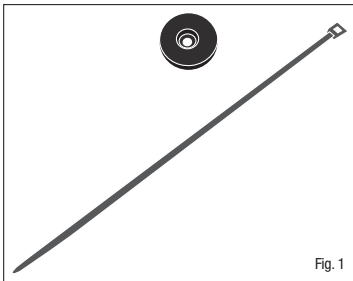

Fig. 1
- Select a T.O.P. tag and cable tie (See Fig. 1).